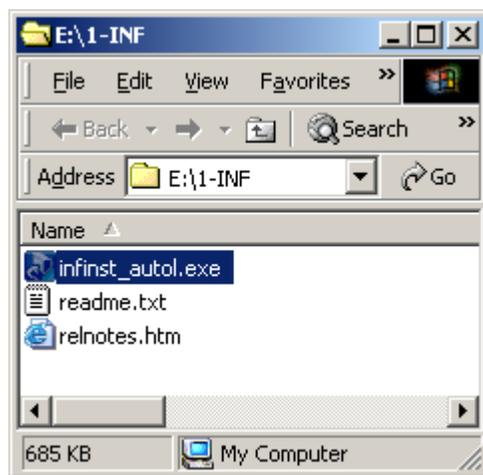

Figure 6-2: Chipset Driver Installation Program
Step 2: A new window opens (**Figure 6-2**).